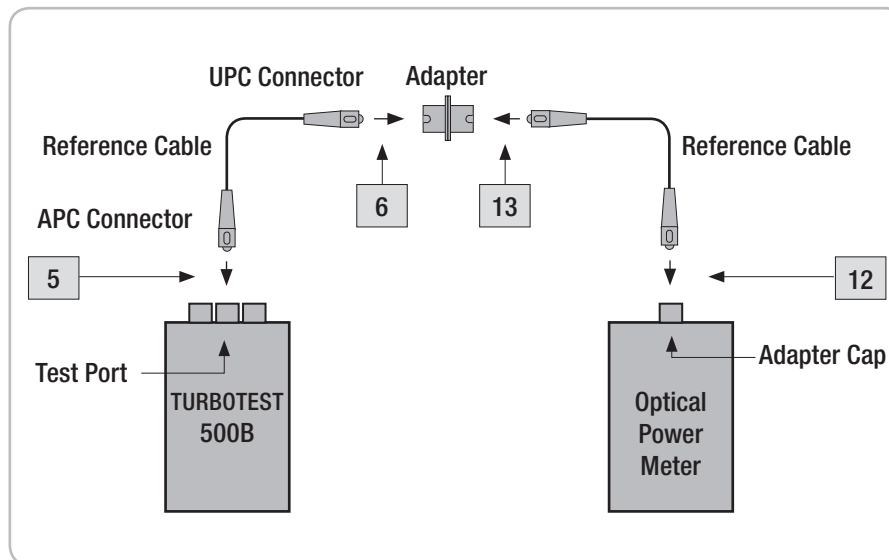

Figure 7-1. OPM Reference Setup.
Refer to Figure 7-1 for a related Illustration.
- 12 Attach the reference cable to the adapter cap (see Figure 7-1).